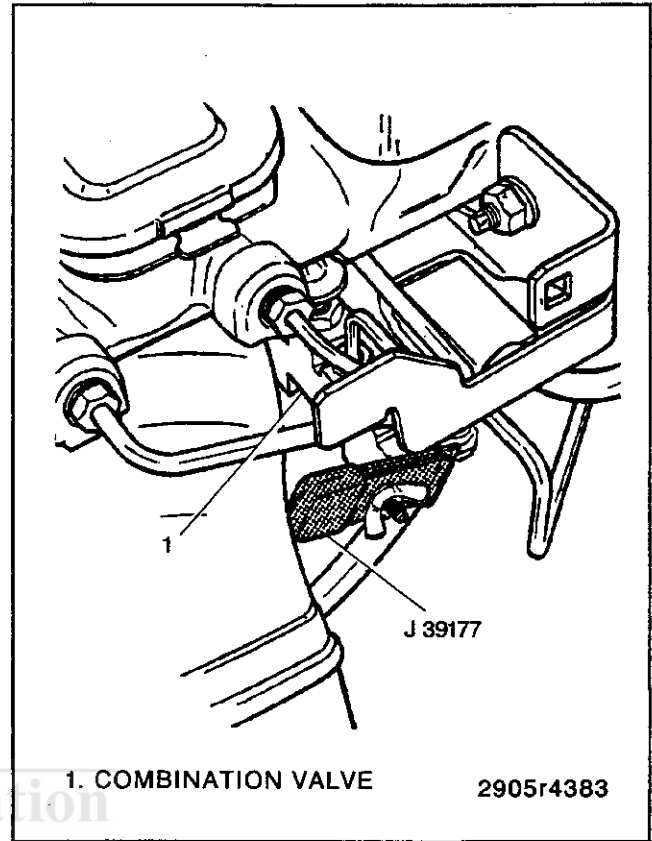

Figure 10—Depressing Combination Valve
4. Install J 39177 on the combination valve (figure 10).